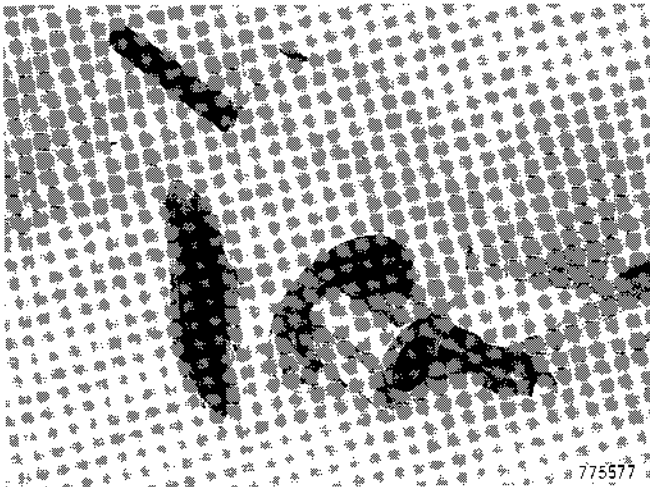

Figure 22
15. Remove inner seal, Figure 22.